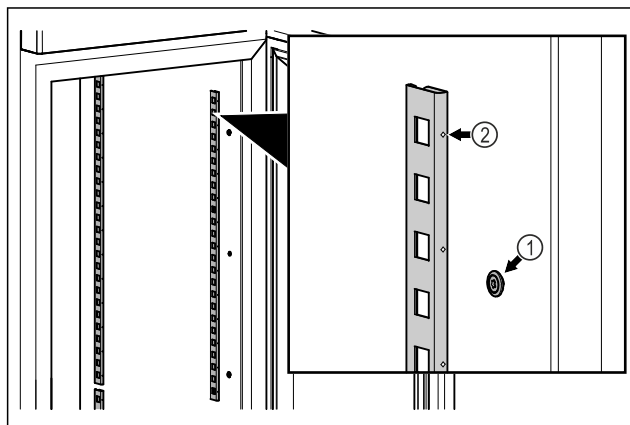

Fig. 56 Example illustration
- ▶ Hook the snap strips into the suspension Fig. 56 (1). Mark Fig. 56 (2) must point forwards.